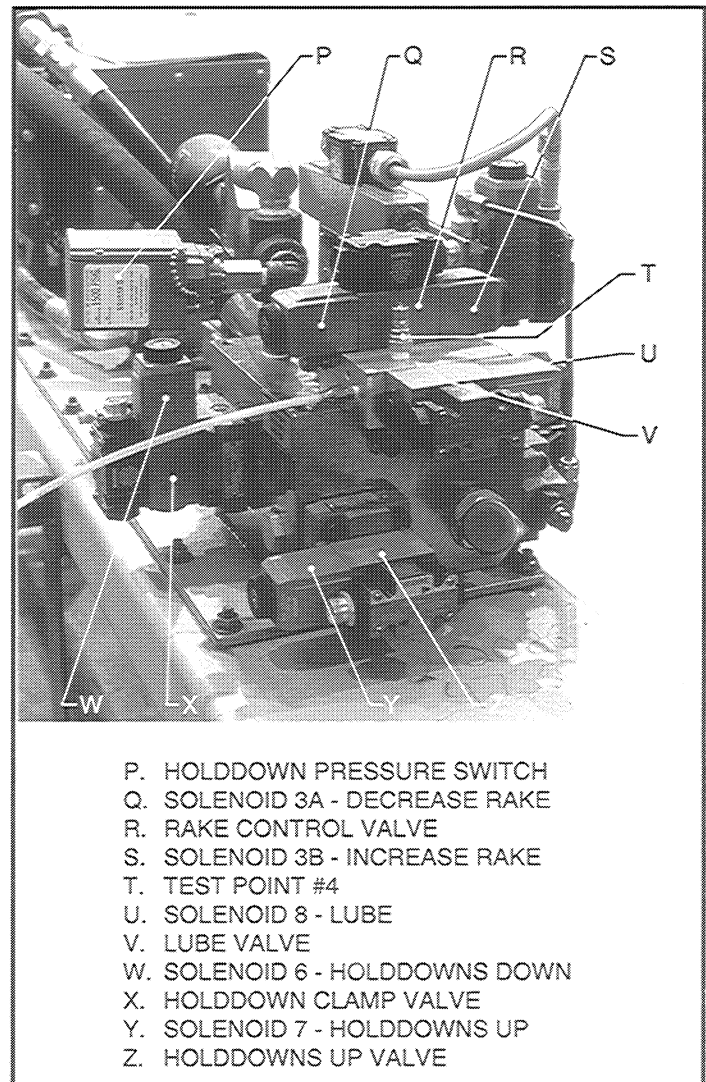

FIGURE 9-45 - Rake control, holddowns up and down valves
The holddown pressure switch ("P" in Figure 9-45) controls the holddown pressure. If the holddown pressure is too low the pressure switch will not allow the ram to stroke.
5. Remove the cover from the holddown pressure switch ("P" on Figure 9-45).
To check the lube relief pressure, install a 5000 PSI (34,475 kPa) gage with female quick-disconnect fitting at T.P. 4 ("T" on Figure 9-45). This test point is located on top of the auto lube manifold.